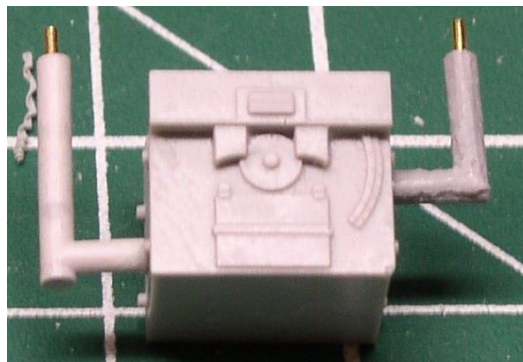

Figure U22
24. Shorten the pipe with the longer leg by 6" off the top. It should be about 32" long. Shorten the pipe with the shorter leg to 21". Drill out holes in the ends of the insulated pipes that go into the charcoal heater using a 0.032" drill. Glue short pieces of 0.032" rod into the top of the pipes. Typically the pipe with the insulation that extends farther down goes on the left lower side. The other goes on the right. Glue in place. See Figure U22.